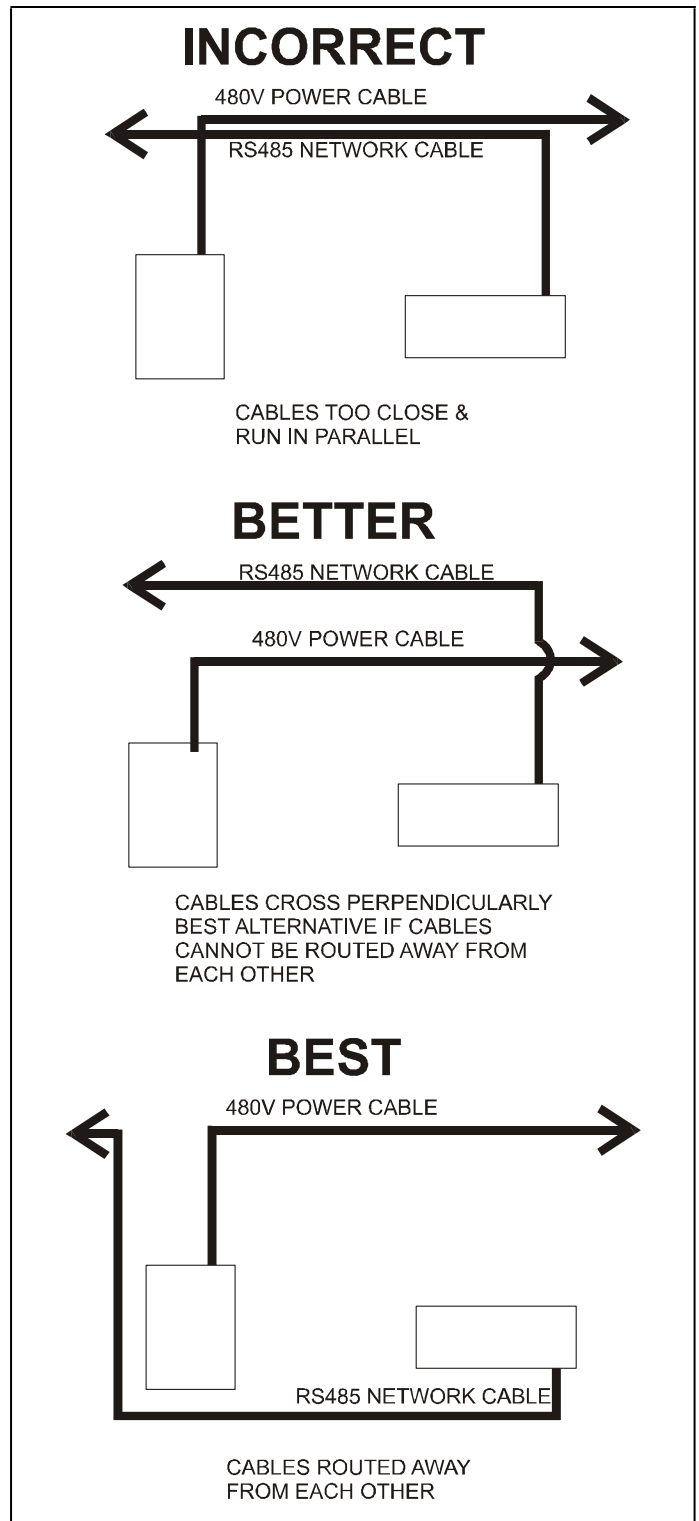

Figure 3-1 - Examples of Good & Bad Cable Routing
3. Avoid running even part of the communication wiring in close parallel with high voltage wiring. A run of parallel wire as short as a few inches could yield enough noise to affect network communication. If the wires must cross each other in close proximity, cross them perpendicular to each other so the amount of noise is minimized (see Figure 3-1).